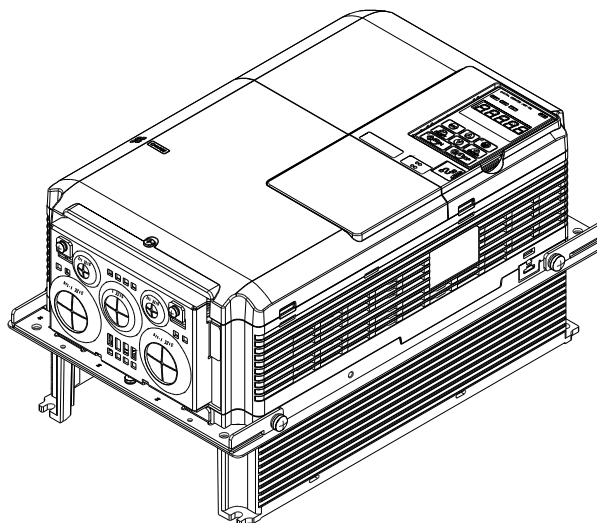

Figure 9: Installation completed (2A0081)
3. Reinstall top cover, terminal cover and NEMA 1 placket (Figure 9)